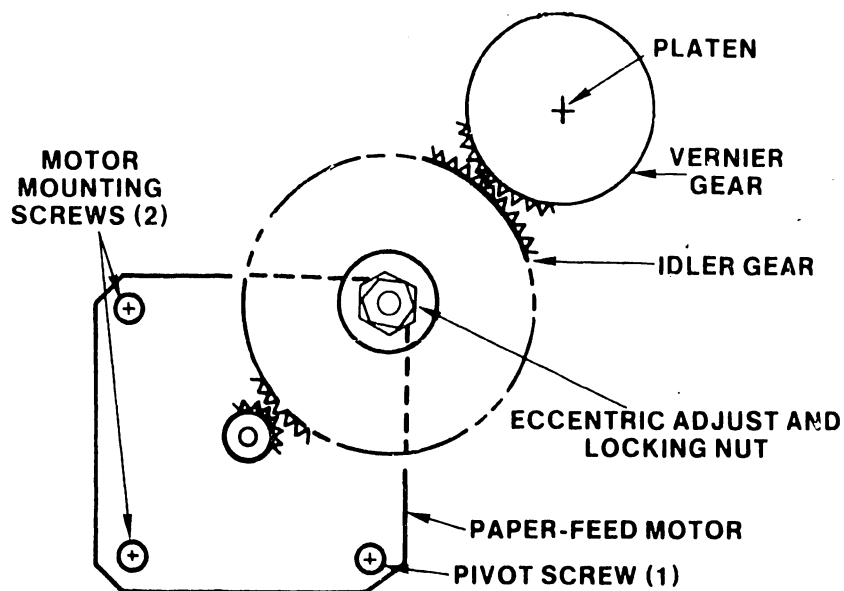

FIGURE 5-19 GEAR ALIGNMENT
5.17.1 MOTOR PINION TO MOTOR PINION IDLER GEAR (See Figure 5-19)
1. Loosen the two motor mounting screws and the pivot screw as shown in Figure 5-19.